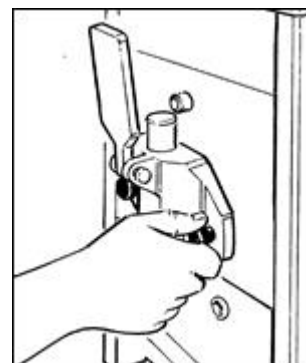

Fig. 62
- Once you have correctly mounted the flange, screw the security knobs right down (Fig. 62).